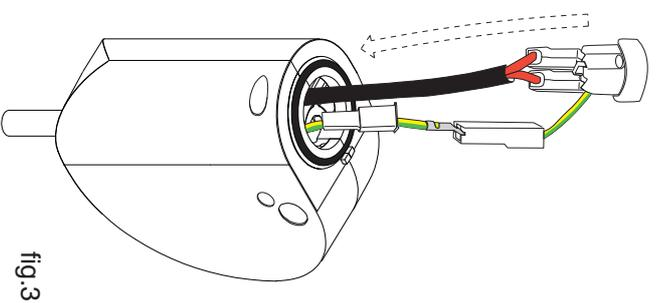

fig.3
3.2 Insert cables and clamps into the plastic body of the temperature regulator "R" until this plastic body will be close quarters with the lowest part of the radiator (Fig.3).